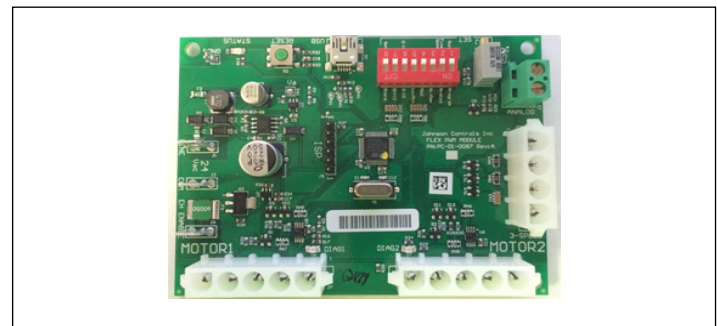

Figure 13 – G3 PWM Board
- a. Locate the G3 PWM board within the control enclosure (See Figure 13).